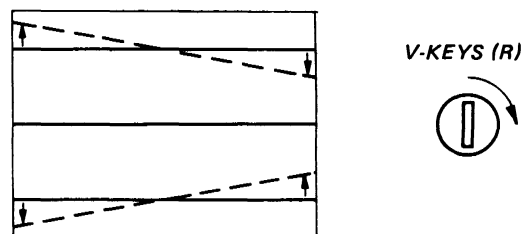

Fig. 3-38
- (13) Adjust RV5529 (V KEYS (R)) so that the upper side and lower side red horizontal lines are parallel (Fig. 3-38).